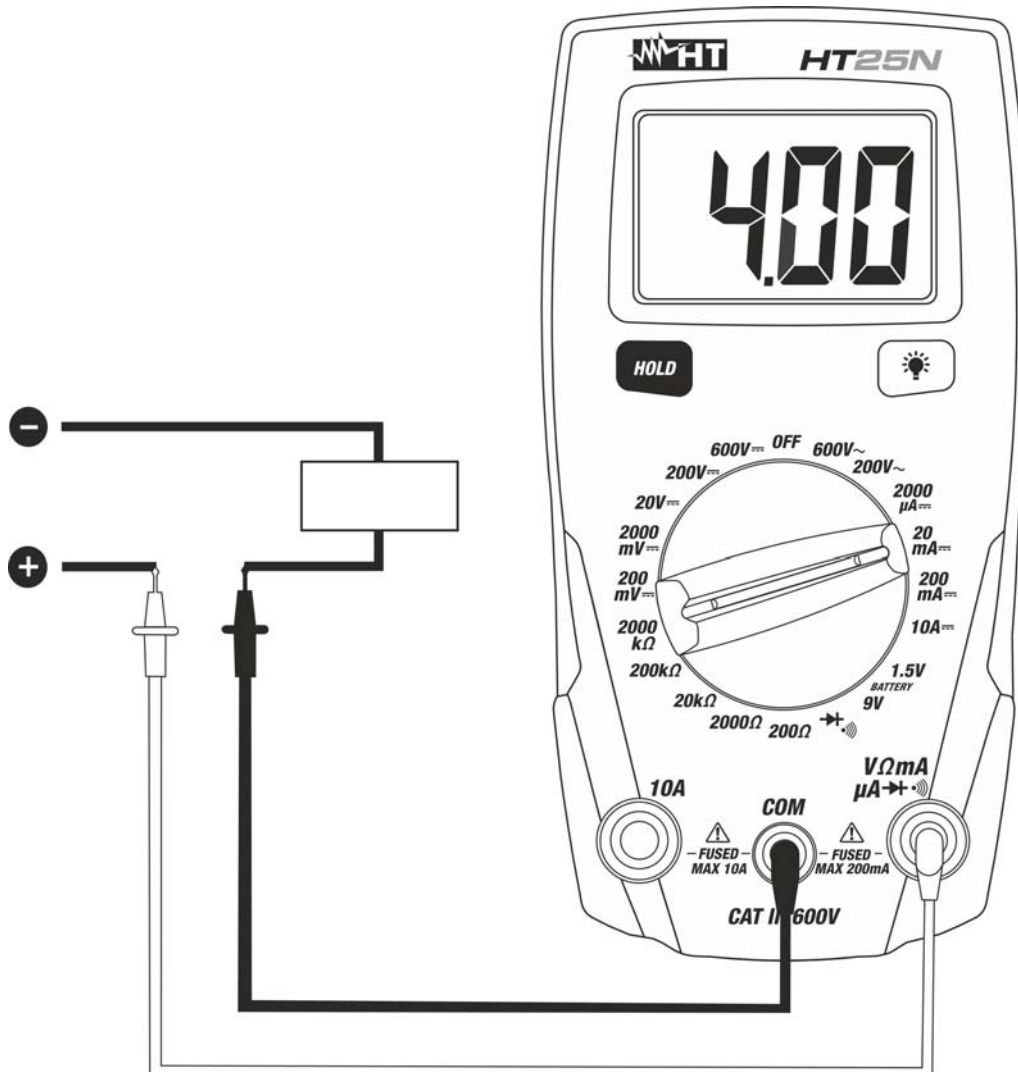

Fig. 4: Using the instrument for DC Current measurement
4. Connect the red and the black plugs in series with the circuit whose current is to be measured respecting the polarities (see Fig. 4)